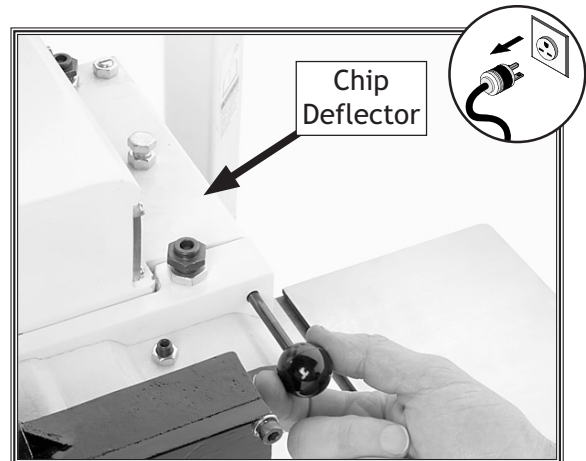

Figure 20. Removing the chip deflector.
2. Pull the pin shown in **Figure 20**, and remove the chip deflector.